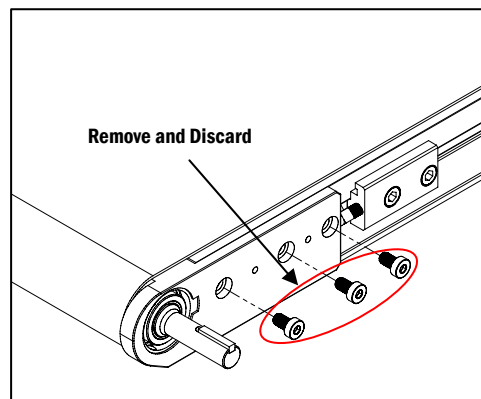

Figure 1
- a. Remove and discard the three M6 Low Head Cap Screws with an Allen Wrench from the drive side Bearing Block (**Figure 1**).